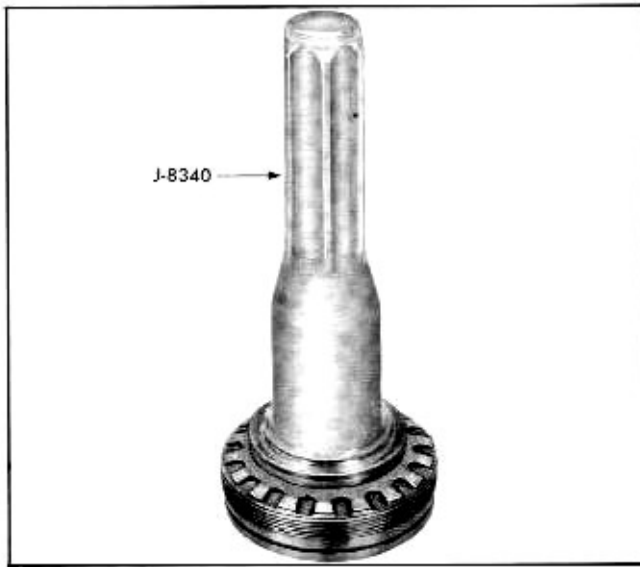

Fig. 4-51 Tool Positioned to Install Front Oil Seal (Automatic Only)
2. Apply uniform bead of sealer and replace front oil seal (automatic transmission only) using tool J-8340 (Fig. 4-51).